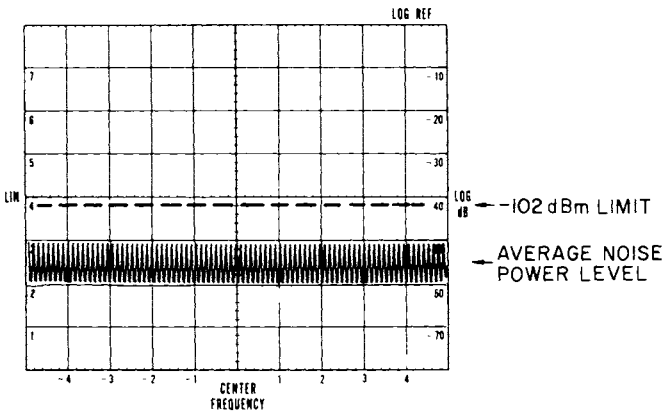

Figure 4-2. Average Noise Level
- 3. Observe the average noise power level on the CRT. It should be lower than -102 dBm as shown in Figure 4-2 as FREQUENCY is tuned from 1250 MHz to 100 kHz. Make sure the LOG REF LEVEL Vernier is set at 0 during the measurement.